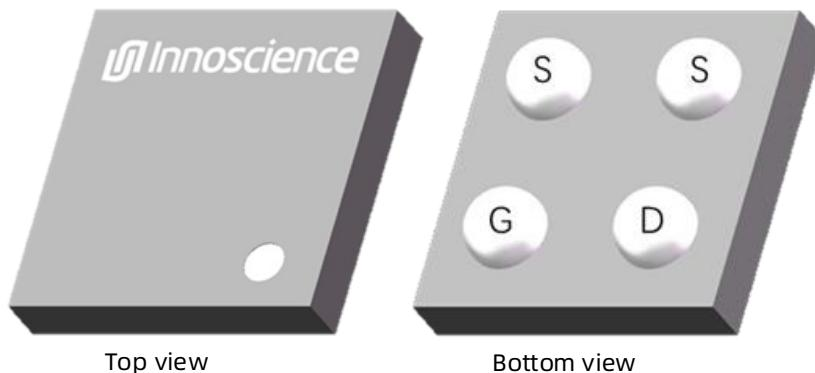

图 1 英诺赛科器件 INN100W800A-Q
附录图 1 设备连接与测试点
Appendix Figure 1 Test point location and wiring diagram
a) 关机状态, 按附录图 1连接好辅助电源, 输入电源, 信号发生器, 示波器探头。
Power off, connect the DC voltage source, as shown in Appendix Figure 1 (note polarity).